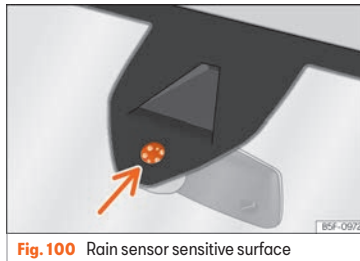

Fig. 100 Rain sensor sensitive surface
Possible causes of faults and mistaken readings on the sensitive surface » **Fig. 100** of the rain sensor include:
- Regularly clean the sensitive surface of the rain sensor »» Fig. 100 (arrow) and check for possible damage to the wiper blades.